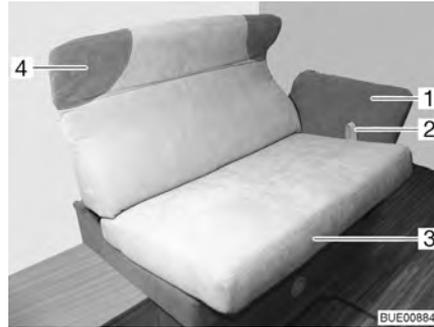

Fig. 78 Adjusting the divan
- Pull up the loop (Fig. 78,2) and carefully pull the seat (Fig. 78,3) along the rails as far as it will go towards the middle.
- Hold the neck cushion (Fig. 78,4) in both hands and carefully move it up or down to the right position.
- Hold the armrest (Fig. 78,1) in both hands and carefully move it up or down to the right position.